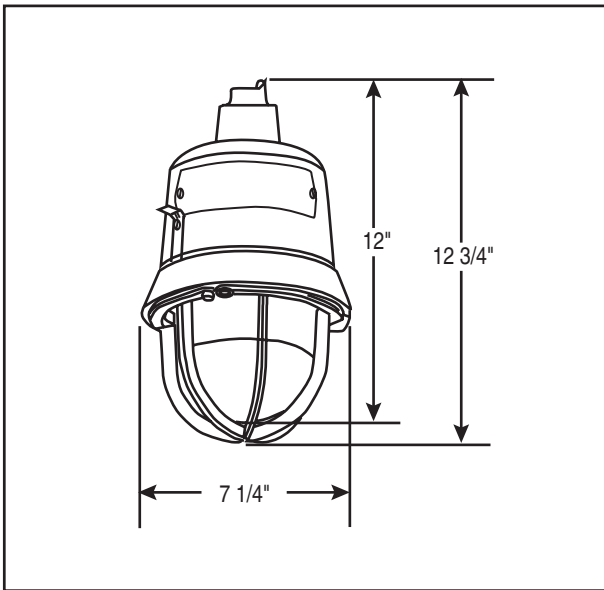

Figure 2. Detail of Pendant Mounting
- a. **Pendant Mount Models** (Figure 2): Install the catalog number 116EX-P, pendant mounting module, to the main housing. Install explosion-proof hanger box (not supplied). Secure 3/4" (19